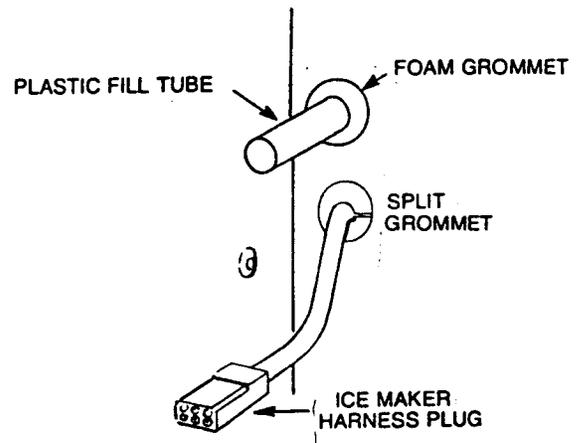

Figure 4A Split ring grommet and foam grommet installed
7. Working at the cabinet front on the three door refrigerator push the wire harness through the lower hole of the fan shroud and the fill tube through the upper hole of the fan shroud. Fit the split grommet over the harness and the foam grommet around the fill tube into the openings in the fan shroud (see figure 4A).